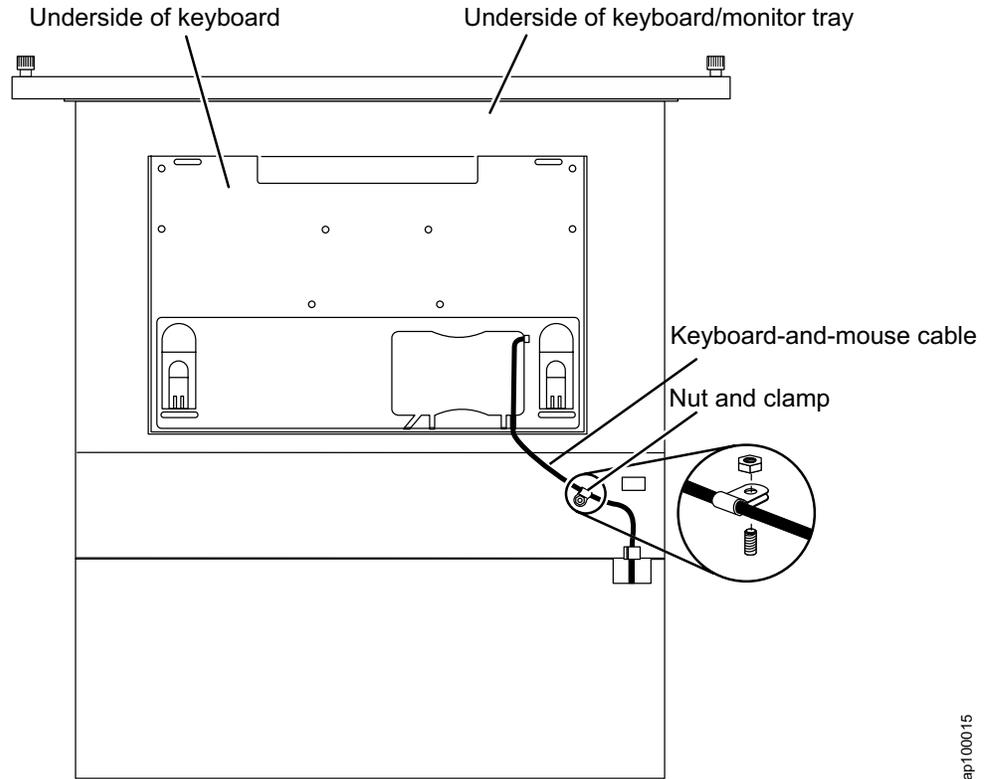

Figure 13. Underside of fully extended keyboard/monitor assembly with focus on nut and clamp
4. On the underside of the keyboard/monitor assembly, unfasten the keyboard-and-mouse cable from the nut and clamp: (Figure 13 on page 32)
- a. Push the keyboard-and-mouse cable into the clamp that you removed in step 3 on page 31. (Figure 13 on page 32)